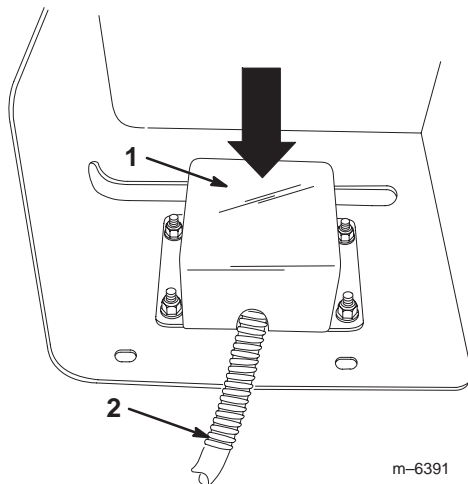

Figure 27
15. Install the switch wire cover over the switches and around the wires (Fig. 27) and secure it with 4 flange-head bolts (1/4 x 3/4 inch) and 4 flange nuts (1/4 inch).